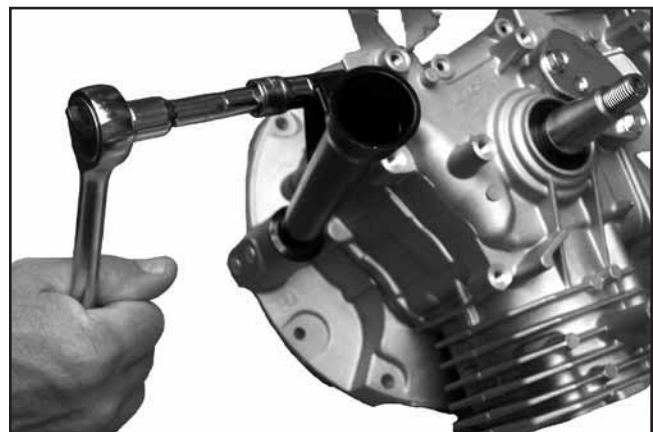

Figure 10-53. Installing Dipstick Tube.
- Install the dipstick tube to the crankcase. See Figure 10-53.